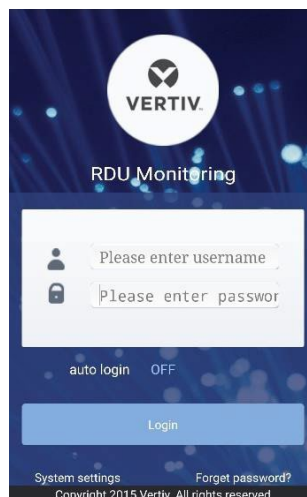

Figure 3-96 User Interface
1. Open APP, interface shown in Figure 3-96.